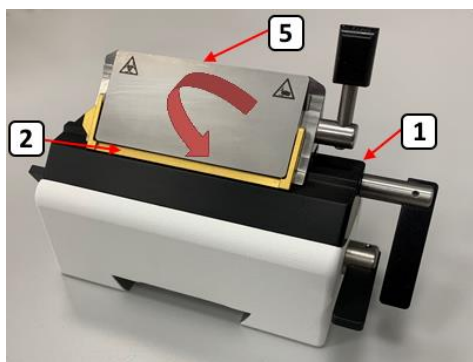

Figure 4
Fig. 4 shows the disposable blade carrier DBC (1) with the finger-guard (2) in the non-protecting position. The cutting edge (5) is unprotected. This position should only be applied while actual sectioning is ongoing.